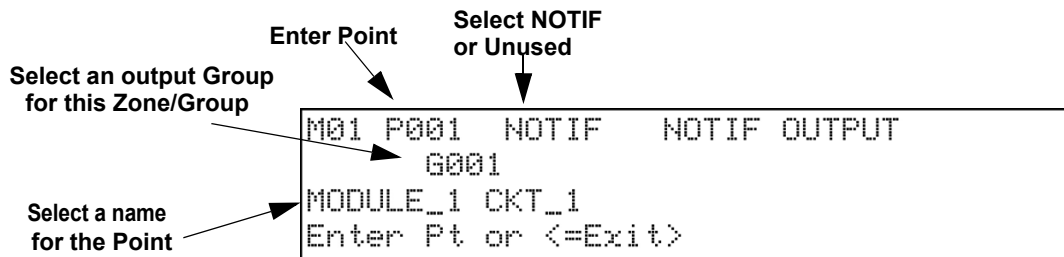

Figure 9-5 Programming Points as Outputs for the 5880 Module
12. Press the Up or Down arrows to select the desired function. (See Figure 9-5 on page 19), then press ENTER.
6. Press the Up or Down arrow to select the type (See Figure 9-5 on page 19). Then press ENTER.